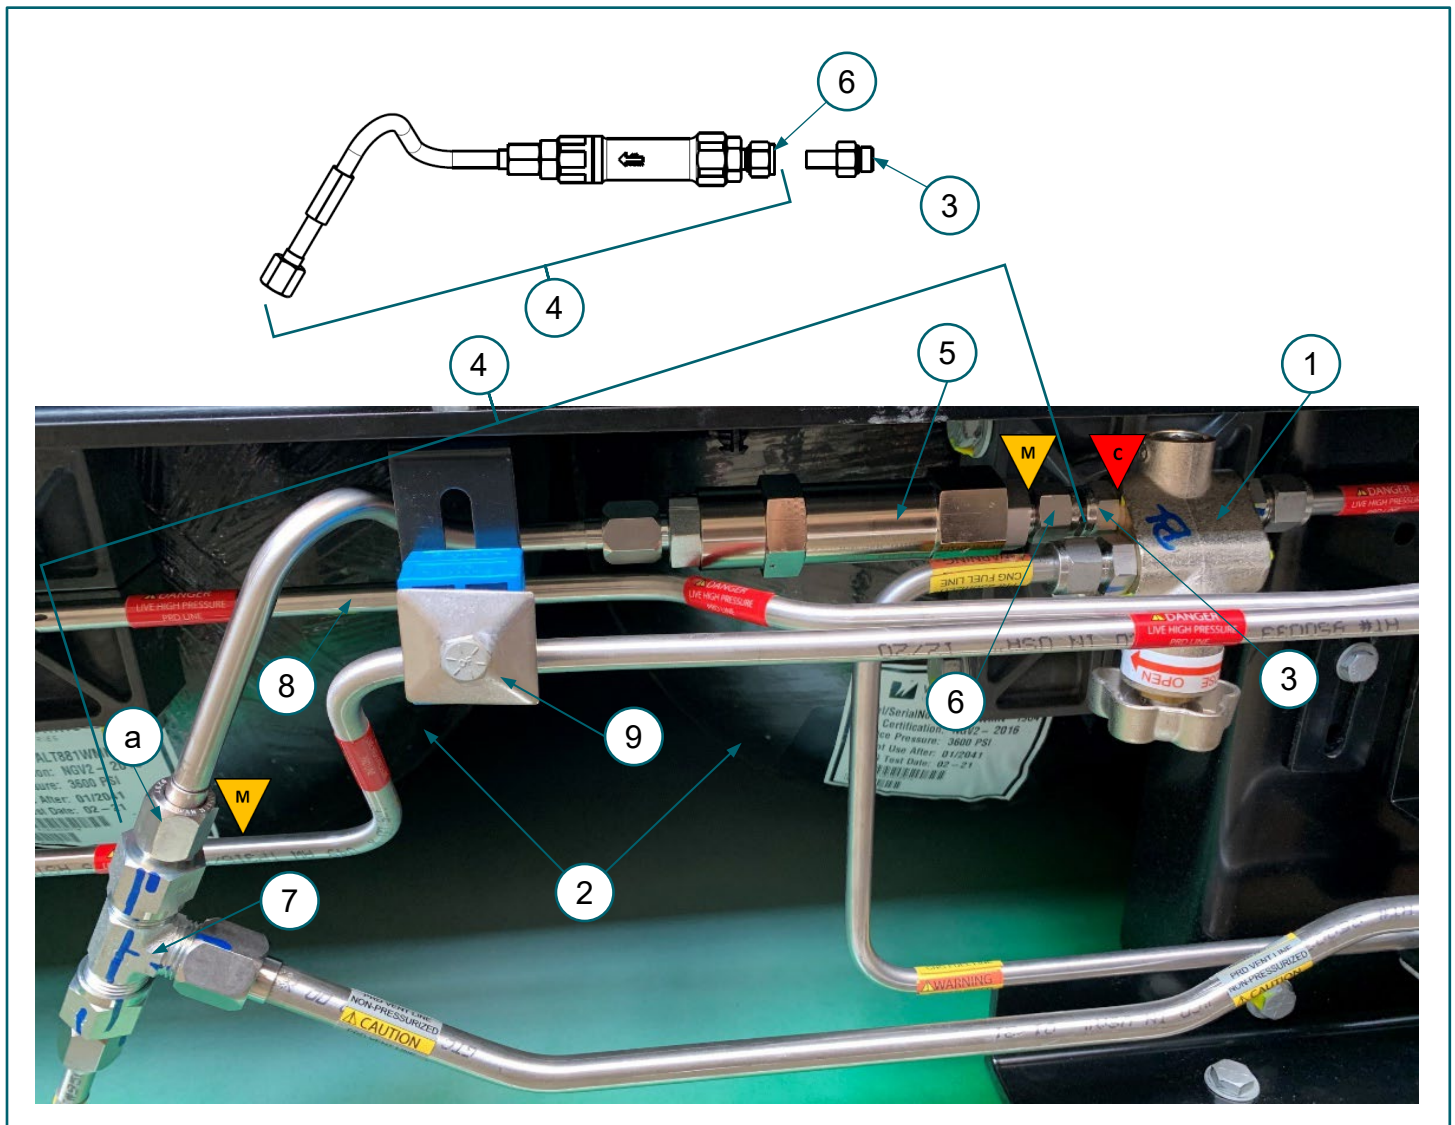

FIGURE 7. Upper cylinder valve end plumbing components after installation of upper PRD vent tube assembly
12. Install (7) male adapter fitting, p/n 10200236, from retrofit kit on (1) upper cylinder valve. **FIGURE 7**